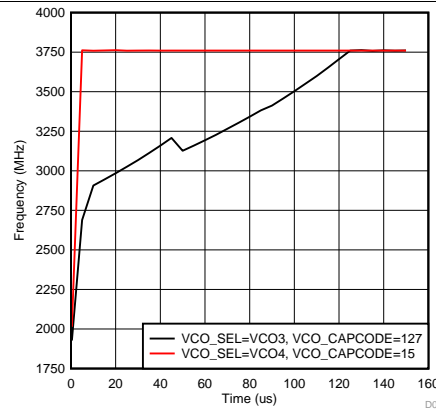

Figure 7. VCO Digital Calibration Time
**Figure 7** shows a frequency change of 1880 MHz to 3760 MHz with  $F_{osc} = F_{pd} = 100$  MHz. If the VCO3 is selected as the starting VCO with  $VCO\_CAPCODE=127$ , digital calibration time is closer to  $115 \mu s$ . If VCO4 is selected as the starting VCO with  $VCO\_CAPCODE=15$ , the calibration time is greatly shortened to something of the order of  $5 \mu s$ .